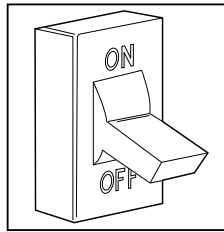

Fig. 5 – Turn Off Electrical Supply
3. Turn OFF electrical supply to the furnace, see Fig. 5.
- Turn off electrical supply to the furnace, see Fig. 5.